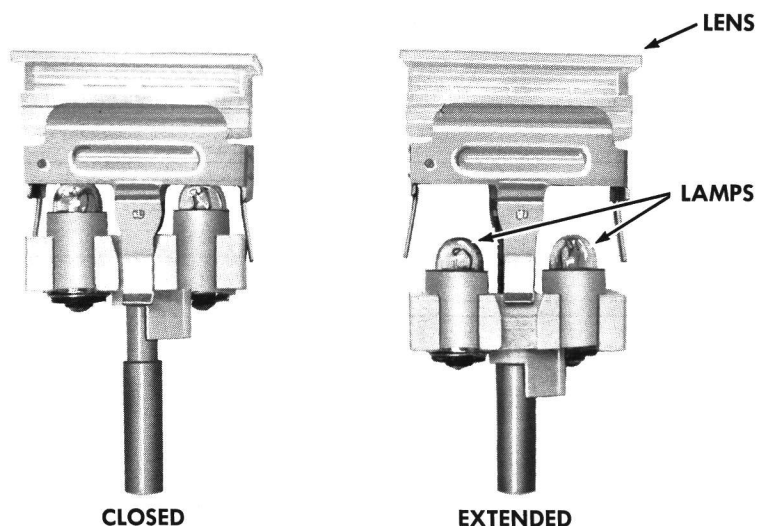

Figure 5 - Switch Indicator Assembly
3. Reinstall the indicator assembly. The assembly must be in the extended configuration shown in Figure 5 before it can be reinstalled in the panel.